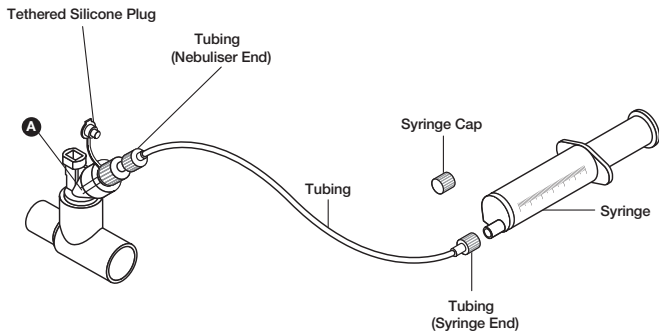

Figure 16. Continuous Nebulization Tube Set
7. Insert the syringe filled with medication into the syringe infusion pump (pump not shown in Figure 16) and set the appropriate flow rate (refer to pump manual or manufacturer for guidance).